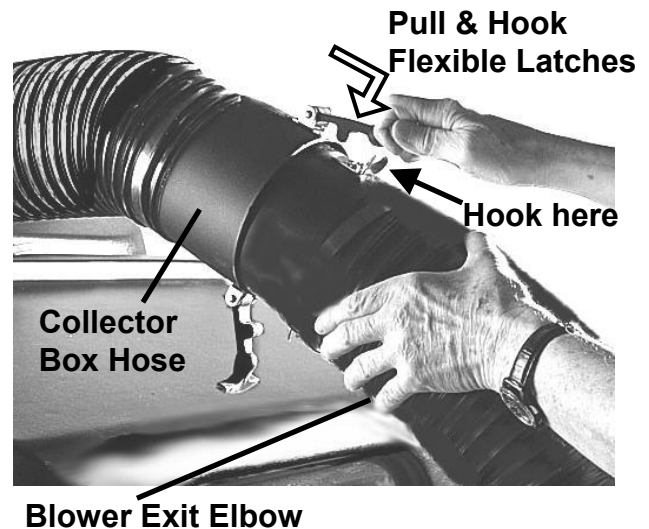

Figure 15
1. Connect the hose from the Collector Box to the Blower Exit Elbow Assembly by aligning the two flexible latches (Figure 15) and slipping the hoses together.
2. Pull and hook the two flexible latches into place (Figure 15) to secure the hoses.